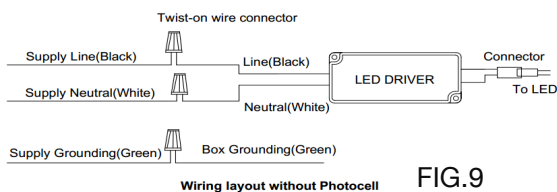
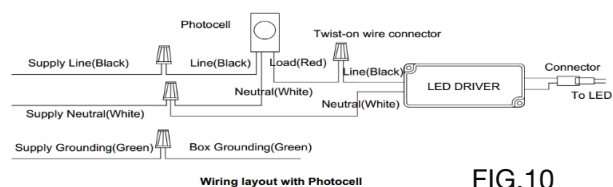

FIG.9
FIG.10
8. Connect powering as shown in layout FIG.9, FIG.10